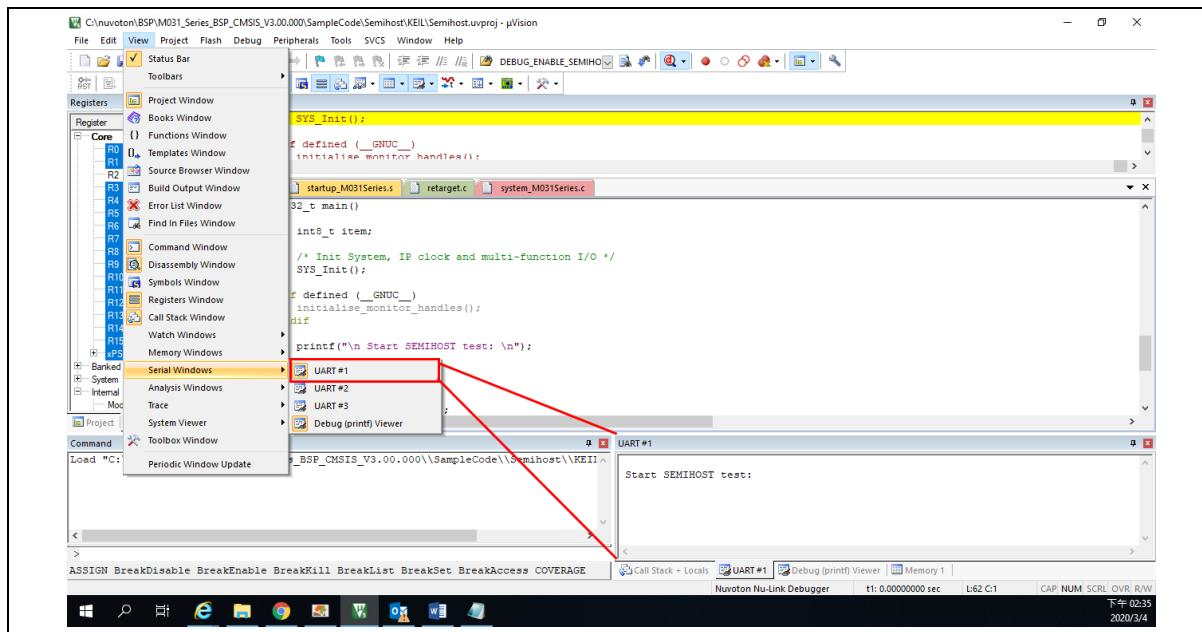

Figure 4.1-4 Semihost Options in Keil MDK Debug Mode
When using the Semihost function, the message of the NuMicro® Family microcontroller can be output through UART to the debug window by the Nu-Link2-Pro. That is, the message is output without the GPIO. Figure 4.1-4 shows the debug messages in the “UART #1” form, which are the messages output by the Nu-Link2-Pro.
Step 3: In Debug mode, invoke **View → Serial Windows → UART #1**, as shown in Figure 4.1-4.